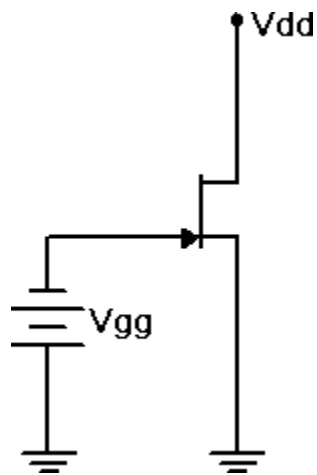

Figure 1
1. Consider the circuit of Figure 1 using $V_{DD} = 15$ volts and $V_{GG} = 0$ volts. With nothing else in the circuit, the resulting drain current should equal I_{DSS} . Similarly, if V_{GG} is gradually changed to a value negative enough to drop the drain current to zero, V_{GG} must be equal to $V_{GS(OFF)}$.
2. Build the circuit of Figure 1 using $V_{DD} = 15$ volts and $V_{GG} = 0$ volts. Insert an ammeter in the drain and record the resulting current in Table 1. Slowly increase the magnitude of V_{GG} (i.e., make it more negative) until the drain current drops to zero (as a practical point, try to get it under $10\ \mu A$, or as low as the ammeter will allow). Record this voltage in Table 1. Repeat this process for the other two transistors. Be sure not to confuse the JFETs. Keep them in order.